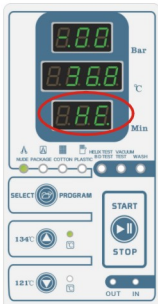

Fig.5.4-1
(1) **Heating coil preheating stage:** press the button “Select program” select the program the instruments which need be sterilization. then press the button “START/STOP”, the “operation display window” show “HE”, the “pressure display window” show “-.0”, the “temperature display window” show “temperature in chamber”. (Fig.5.4-1)